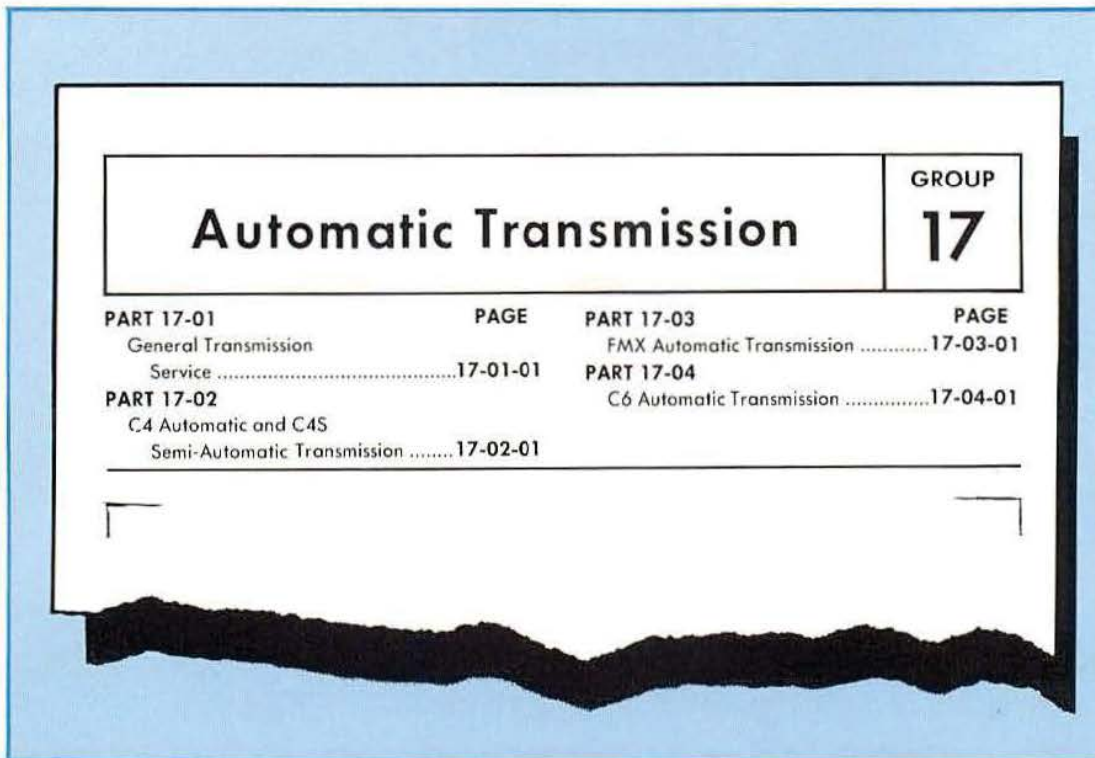

FIGURE 1 — CUTOUT OF AUTOMATIC TRANSMISSION SERVICE INDEX
For instance, the cut-out at the top of page 4 (Figure 1 at left) shows the beginning of the typical Shop Manual section on automatic transmission service. Notice that there are three basic types of automatic transmission given coverage — (1) C4 and C4S, (2) FMX and (3) C6. The General Transmission Service Section in the Shop Manual covers testing; common adjustments and repairs; and cleaning and inspection for all three types. The other sections then cover specific procedures for the individual types.